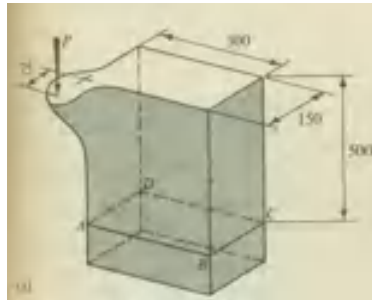

Fig. 5
9. Find the stresses at four corners at the section ABCD for the block shown in Fig.5, If  $P = 64\text{ kN}$  . Neglect the weight of the block. **14M**